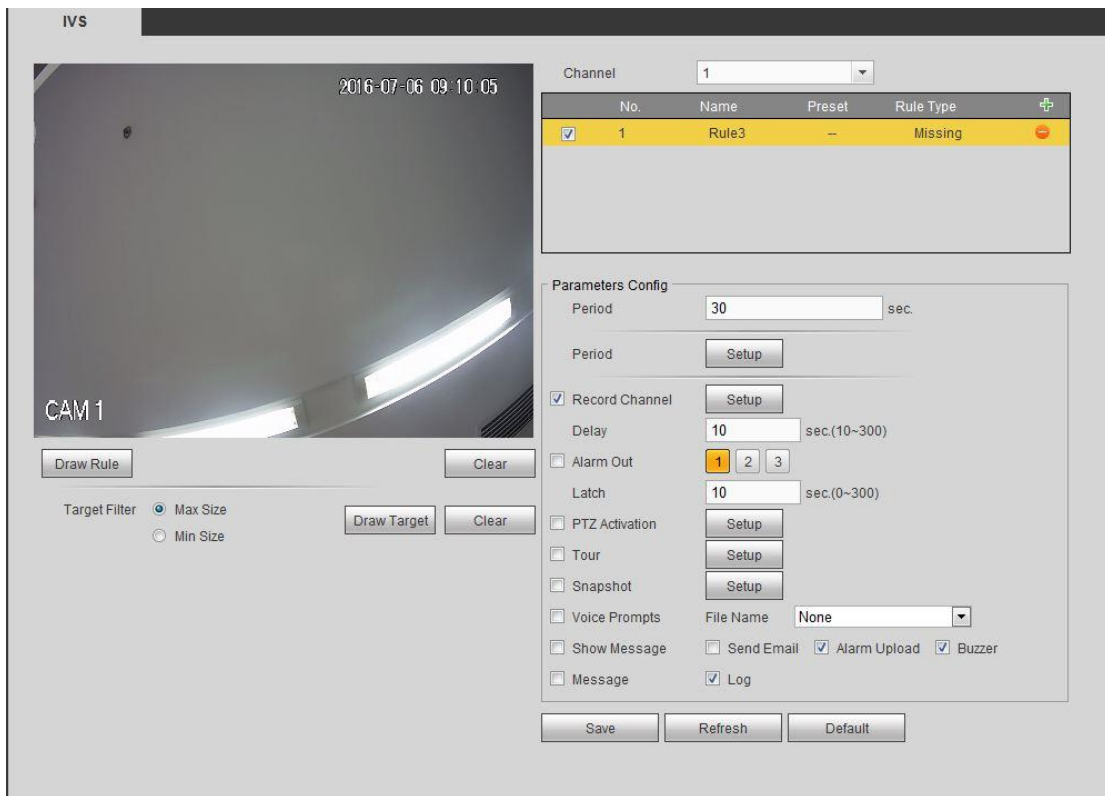

Figure 4-79
Step 2 Check the missing object detection to enable missing object detection function. See Figure 4-79.